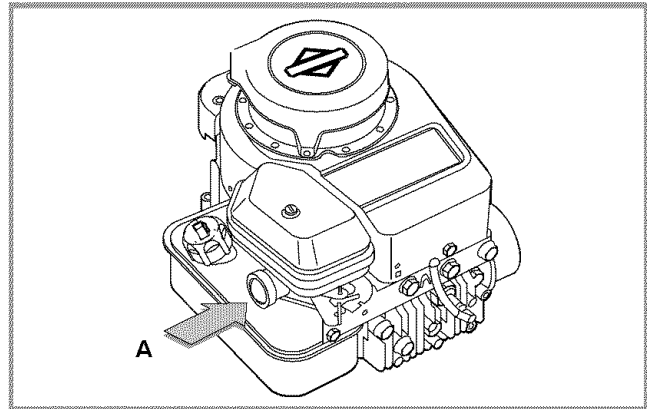

Figure 9: Primer Button
- 2 Push the primer button (A) three times. Wait approximately two seconds between each push. See Figure 9.